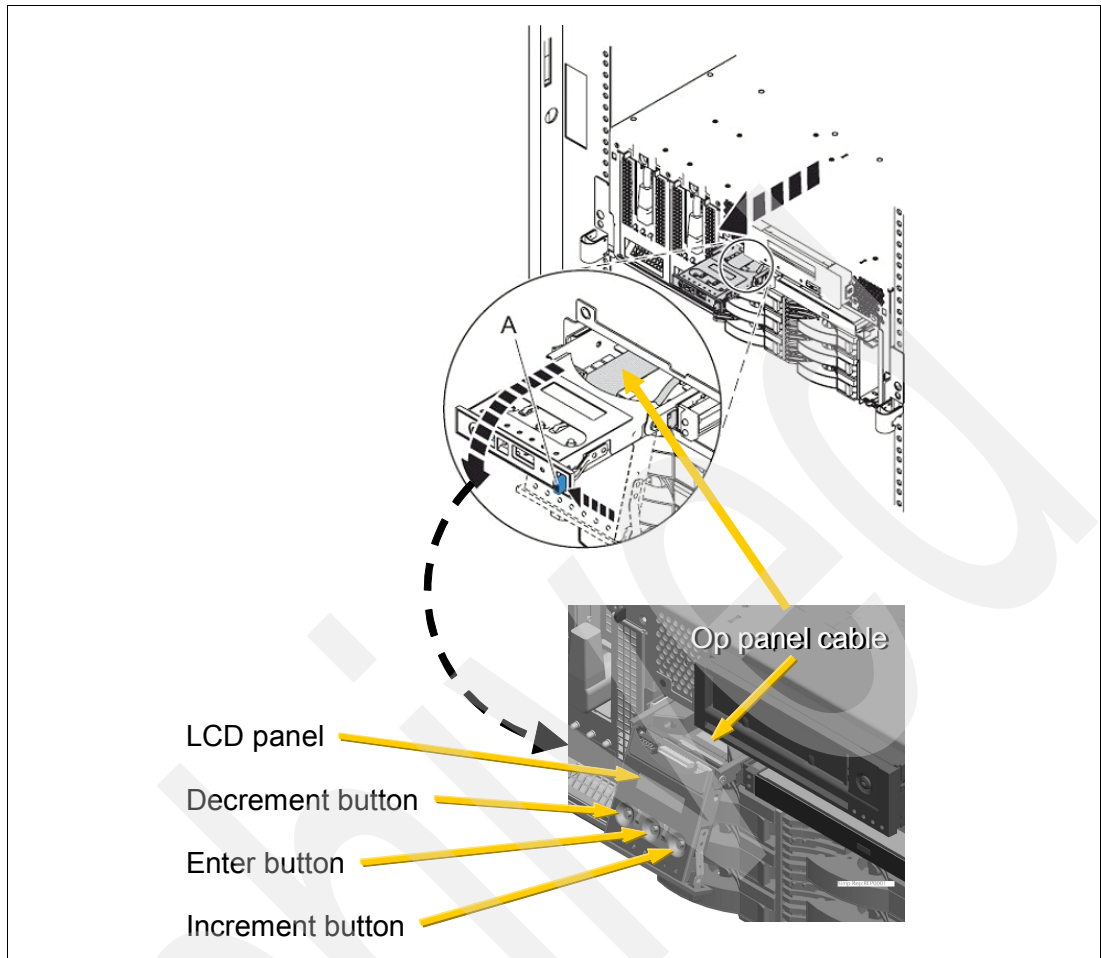

Figure 2-36 Operator control panel physical details
The service processor provides an interface to the control panel (also referred to as the operator panel or simply the *Ops* panel in various sets of documentation) that displays server status and can be used to perform manual diagnostic activities and system start and stop operations without an HMC. Figure 2-36 on page 134 shows the control panel with blue tab (A) pushed to disengage the panel from its normal “display only” position and pivoted into place for use. To use the control panel you must disengage it from its normal display only resting position within the system unit.